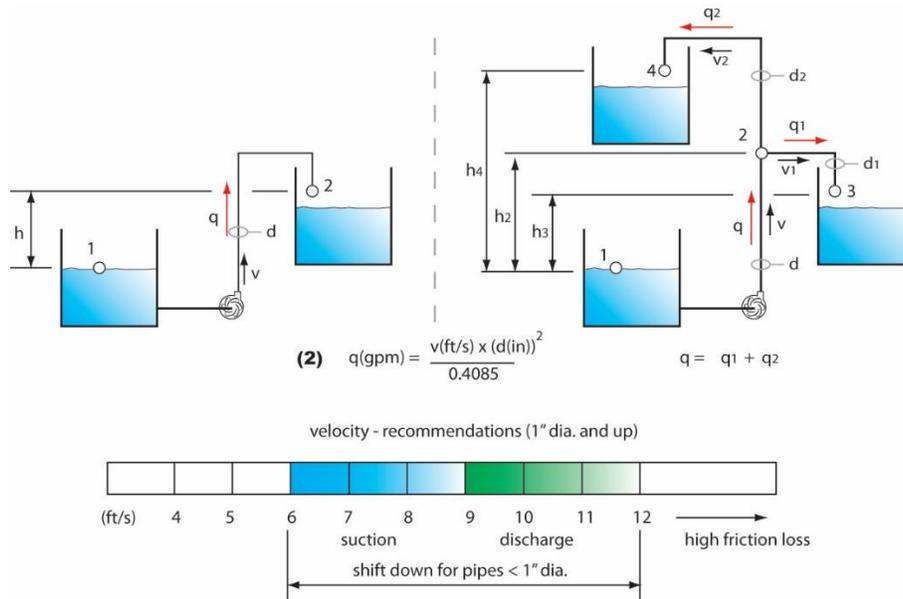

Figure 2
Many pump systems have only one outlet. To size the pump properly and make sure you have the flow required at the outlet requires that you calculate the friction in the lines (i.e. friction head loss), that you know the elevation difference between water tank levels and if there is any equipment in the line that you also know its friction head loss for the given flow rate. Another common occurrence is a pump system with a branch (see Figure 2).
You will rightly notice that there is no flow, or flow rate, or even velocity in the final formula (1) of the energy balance in the next figure. However, it is there hidden within the friction head loss term. You cannot determine the friction head loss unless you know the velocity which comes from the flow rate and the pipe internal diameter (see formula 2 in Figure 2). Therefore, the procedure when designing a new system is to set your required flow rate, determine your pipe sizes based on a reasonable velocity (i.e. 9-12 ft/s); the pipe internal diameter is proportional to velocity and flow rate (see formula 2 in Figure 2). Calculate the friction loss, then add it to the static head h to obtain the head required of the pump. You could convert the pump head to pressure by using the density and the appropriate conversion constant but this is rarely required as pumps are specified in terms of their head (see formula 3, Figure 1).
One final word concerning velocity recommendations in figure 2. The friction loss head rises dramatically for smaller tube diameters, say less than 1". This is because the size of the diameter itself starts to have an effect on friction; for the same velocity the friction head is much larger for a small pipe or tube less than 1" than for say a 2" diameter pipe or larger. This can be seen clearly in the Moody diagram. So, you may want to use a smaller discharge velocity value for small tubes. Also, keep in mind that the friction head loss also depends directly on the pipe/tube length, therefore short pipes will have less friction.